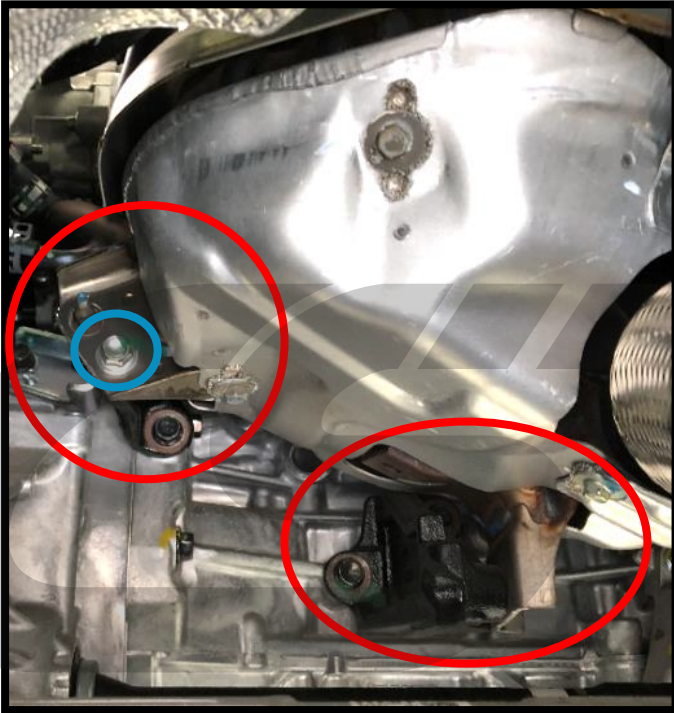
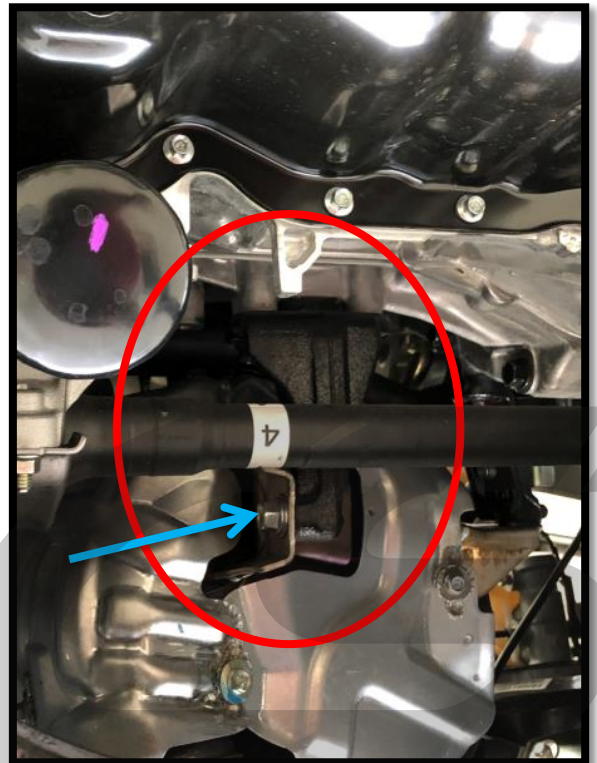

Figure 4a
Figure 4b
- a) While still under the car, locate the lower header mounting brackets. They are shown circled in red in Figure 4a and Figure 4b.
- b) Remove the 14mm bolt that attaches the OEM header to the bracket near the transmission. Shown circled in blue in Figure 4a.
- c) Remove the 14mm bolt that attaches the OEM header to the bracket near the engine oil pan. Shown with the blue arrow in Figure 4b.